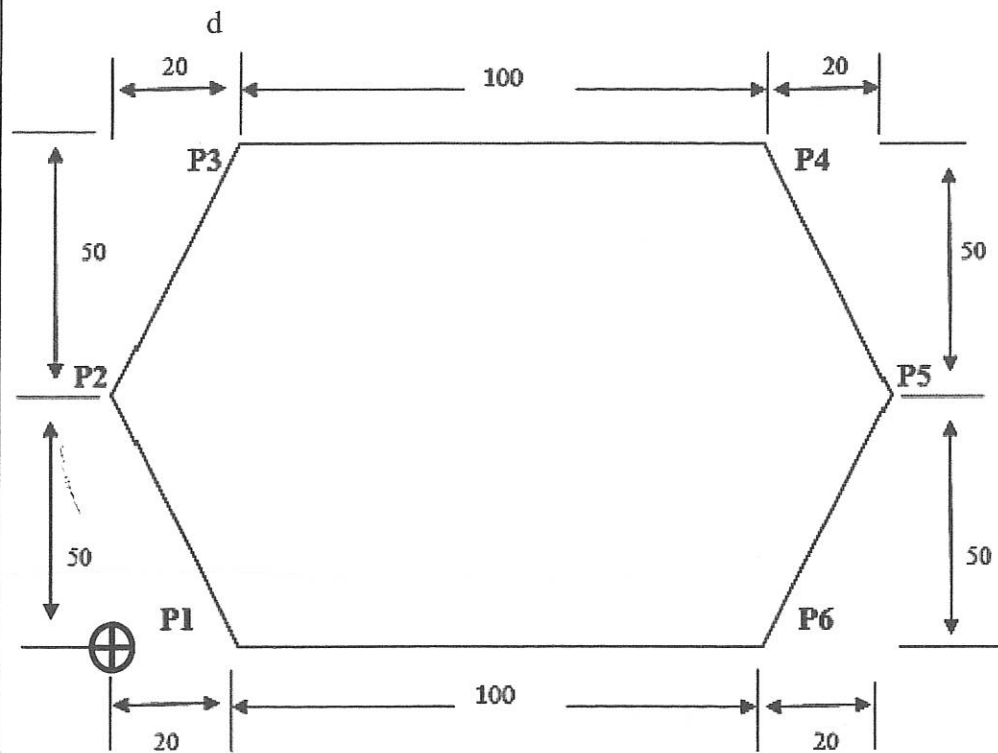

Figure 3c / Rajah 3c
- (c) Complete **Table 3c** by referring coordinates in **Figure 3c** below with method of absolute coordinates and incremental coordinates.